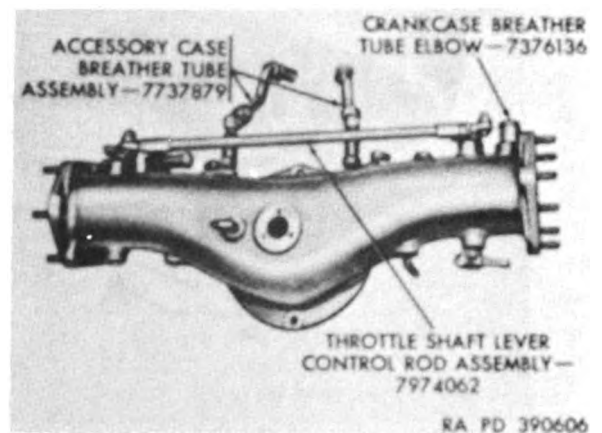

Figure 102. Supercharger air inlet housing assembly.
c. Remove supercharger air inlet housing assembly, with attached breather tube assemblies and control rods, from accessory case. Remove and discard "O" ring packing. Figure 102 shows the air inlet housing assembly as removed from engine.